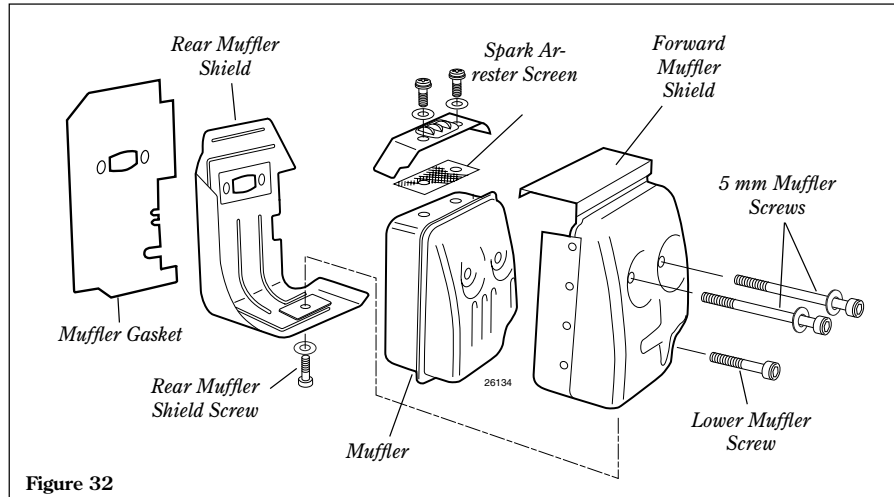

Figure 32
5. Remove the rear muffler shield socket head screw and, while noting the orientation of parts, separate the muffler shield. See Figure 32.